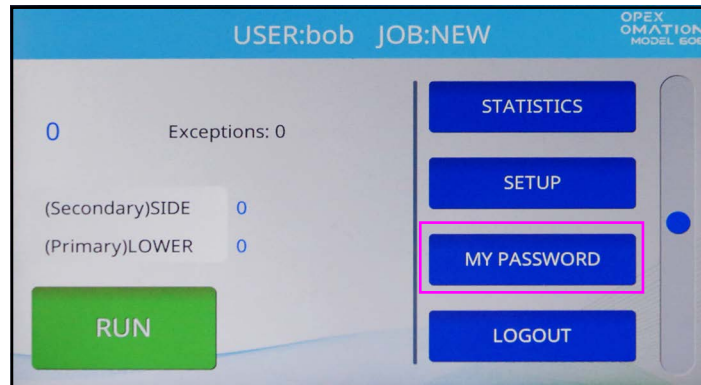

Figure 5-15: Main screen - select MY PASSWORD
1. After logging in, press **MY PASSWORD** on the Main screen (Figure 5-15) to change the currently selected user's password.